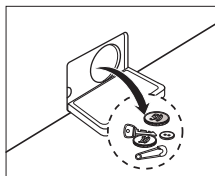

Fig.15
- Remove foreign objects/fluff from inside and clean the interior. (Fig.15)